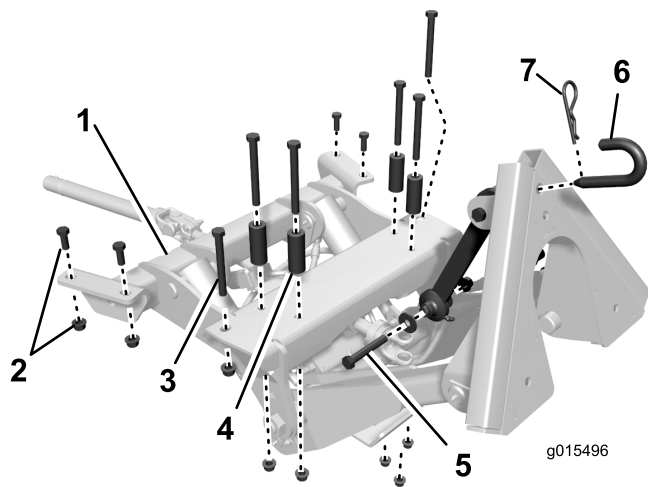
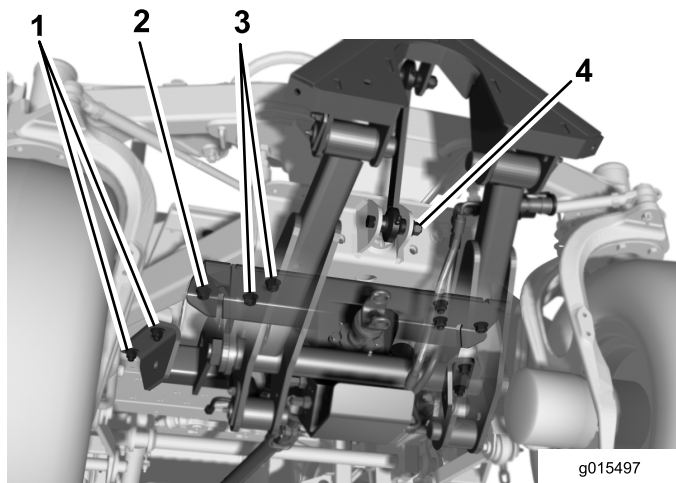
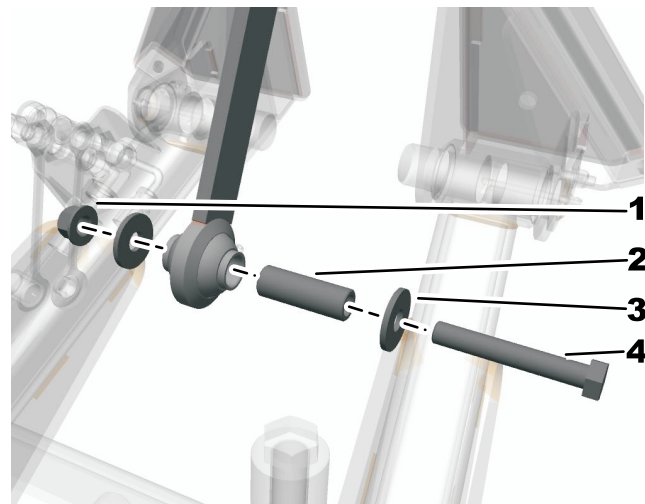

Figure 5
Figure 6
Figure 7
1. Figure 5 shows the top view of the location, positioning and size of the fasteners used to secure the front attachment frame to the underside of the traction unit frame.
3. Position the front attachment frame under the front of the machine (Figure 6).
4. Raise the front attachment frame while aligning the mounting holes with the mounting holes in the frame channels and the front frame cross plate (Figure 6).
5. On the front of the attachment, secure the outer hole, on each side, to the frame channels with a 1/2 x 4-1/2 inch screw and a 1/2 inch flange nut (Figure 6).
6. On the rear of the attachment, loosely install each side to the frame channels with (2) 1/2 x 1-1/4 inch screws and 1/2 inch flange nuts (Figure 6).
7. Using the remaining (4) mounting holes, secure the attachment to the frame cross plate with 1/2 x 4-1/2 inch screws, spacers and 1/2 inch flange nuts (Figure 6). Position the spacers between the screw head and the cross plate.
9. Secure the top link assembly to the axle support with the 1/2 x 3-1/4 inch screw, (2) support washers and 1/2 inch lock nut (Figure 5 and Figure 6). The washers are to be positioned on the outside of the ears on the axle support. Install the spacer and torque to 67 to 83 ft-lb (91-113 Nm) Figure 7).